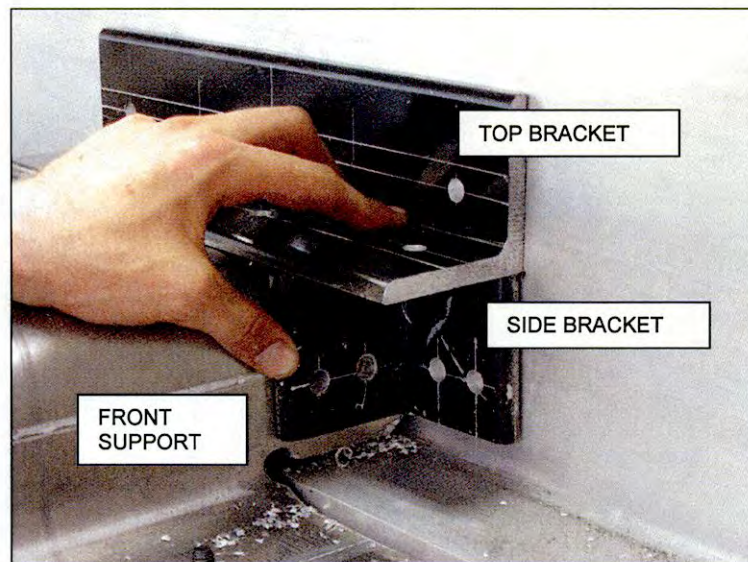

Figure 3
2. Place the new top bracket on top of the front support with approximately equal amounts of the bracket extending over the sides (see Figure 3 below). Do not fasten the top bracket; the bracket is being located only to give the side brackets something to butt up against.
3. Place a side bracket as shown in Figure 3, making sure that the top of the bracket touches the bottom face of the top bracket. Note that the holes in the side bracket are offset from the bracket center line. Mark the center of the holes for the front supports and beam web using the side bracket holes as a template. Starting the holes with the bits used to make the holes will work well for this (see steps 4 and 5). Do the same for both sides of each front support.